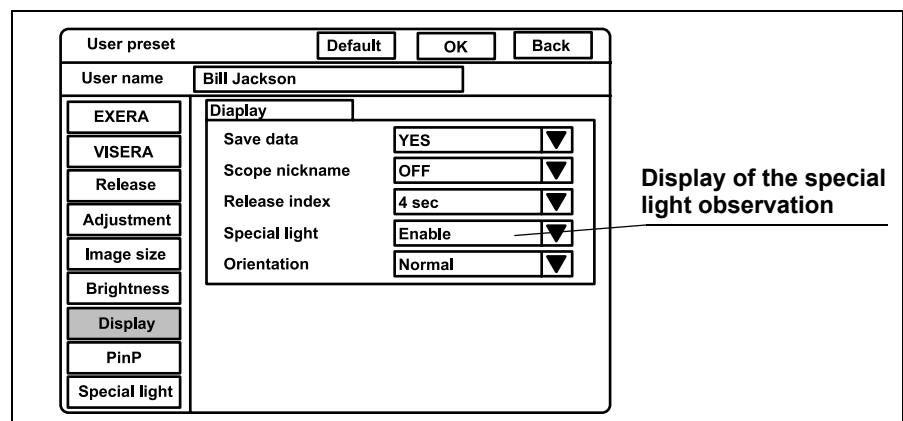

Figure 9.37
1. Click “ ▼ ” of “Special light” (see Figure 9.37). The settings “Enable” and “Disable” appear in the pull-down menu.